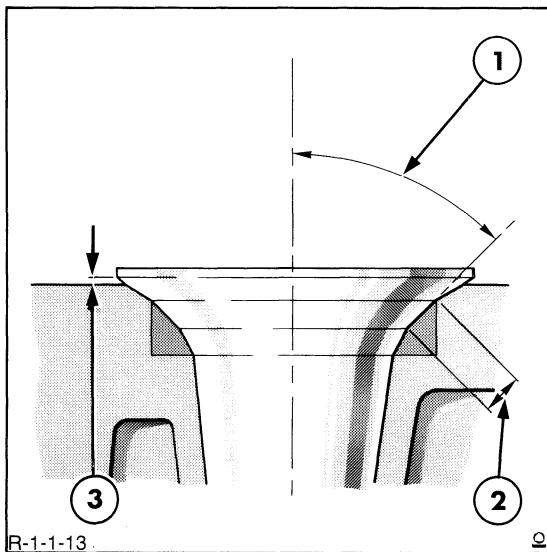

Figure 13
3. Check the width of the valve seat inserts and, if necessary, reface by grinding to the dimensions shown in Figure 13.
7. Rotate a new or refaced valve lightly in the seat, using Prussian Blue. If the blue is transferred to the valve face the specified distance (valve head protrusion) below the upper edge of the valve face, Figure 13, the contact is satisfactory. If the blue is transferred to the valve face above or below this point, raise or lower the seat as follows:-